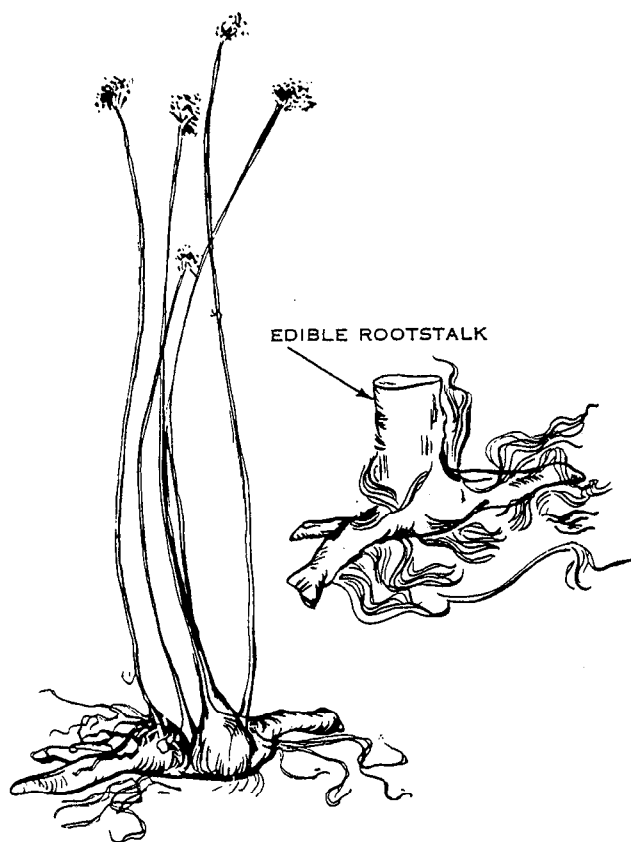

Figure 6-10.—Bulrush.
6. BULRUSH. This familiar tall plant is found in North America, Africa, Australia, East Indies, and Malaya. It is usually present in wet, swampy areas. The roots and white stem base may be eaten cooked or raw. (See fig. 6-10.)